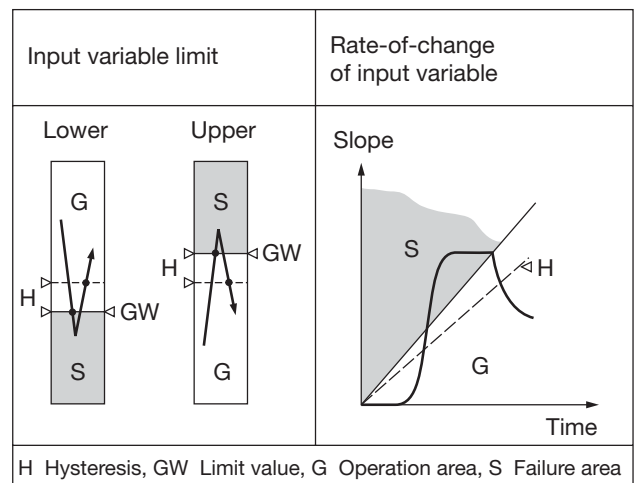

Fig. 3. Switching function according to limit monitored.
- Lower limit value of the measured variable (see Fig. 3, left)
- Upper limit value of the measured variable (see Fig. 3, left)
(see Fig. 3 right)